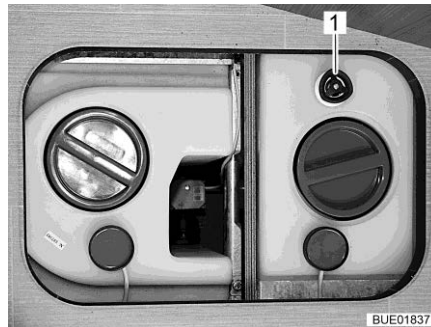

Fig. 195 Water tank with rotary handle
- Turn the rotary handle (Fig. 195,1) on the water tank in an anticlockwise direction as far as possible beyond the resistance to fully open the drainage opening.